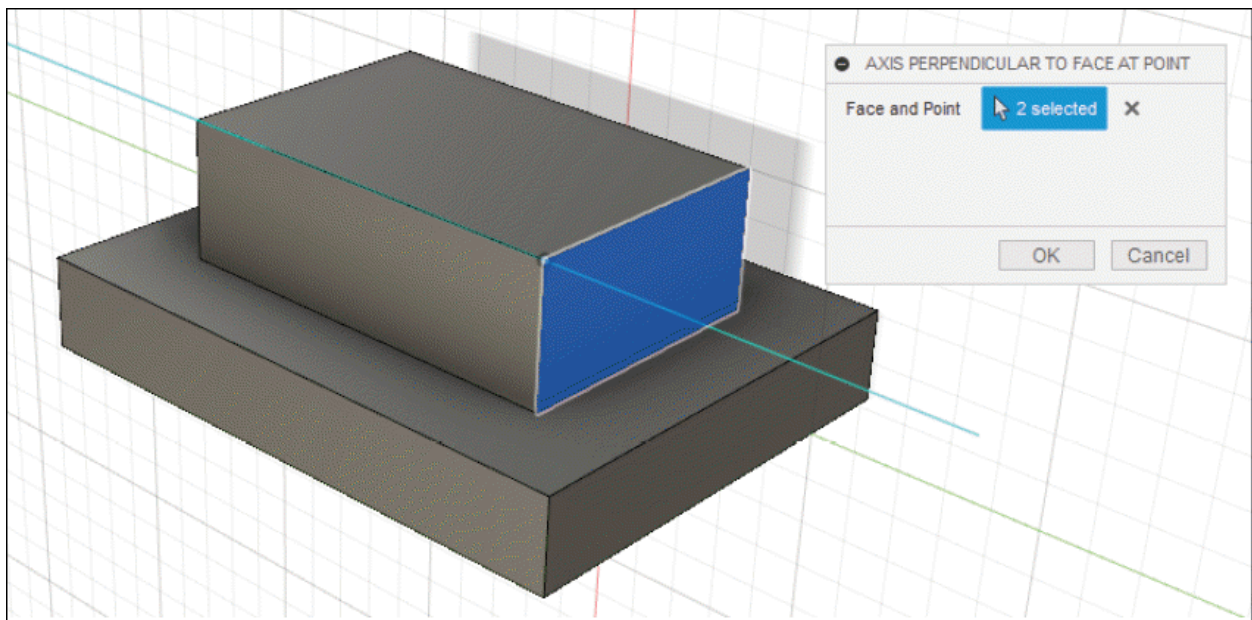

Figure-121. Preview of axis perpendicular to face at point
- On selecting the face, preview of axis will be displayed; refer to Figure-121.